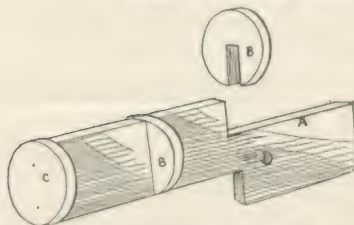

Fig. 2—The boiler framework
The next parts required are three discs 1½ins. in diam., two as "B" cut with halvings to fit into A, and one, a plain disc for gluing and nailing on the end as shown in Fig. 2. These discs are to take the 1/16in. wood (D) which will be bent round them and glued and close pinned if necessary.